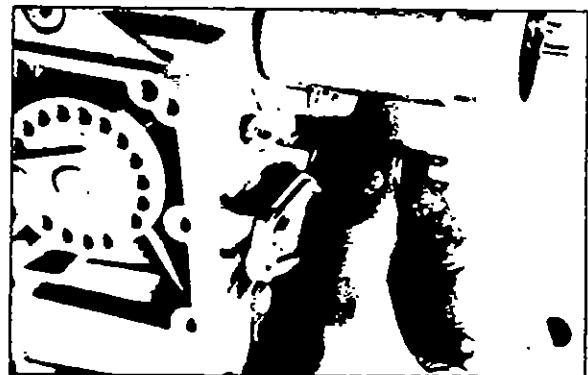

Fig. 1.1.6
1. Start engine and check low idle RPM. Disconnect the throttle linkage and adjust the idle per Caterpillar specification by turning the switch clockwise to increase and counterclockwise to decrease engine RPM (Fig. 1.1.6).